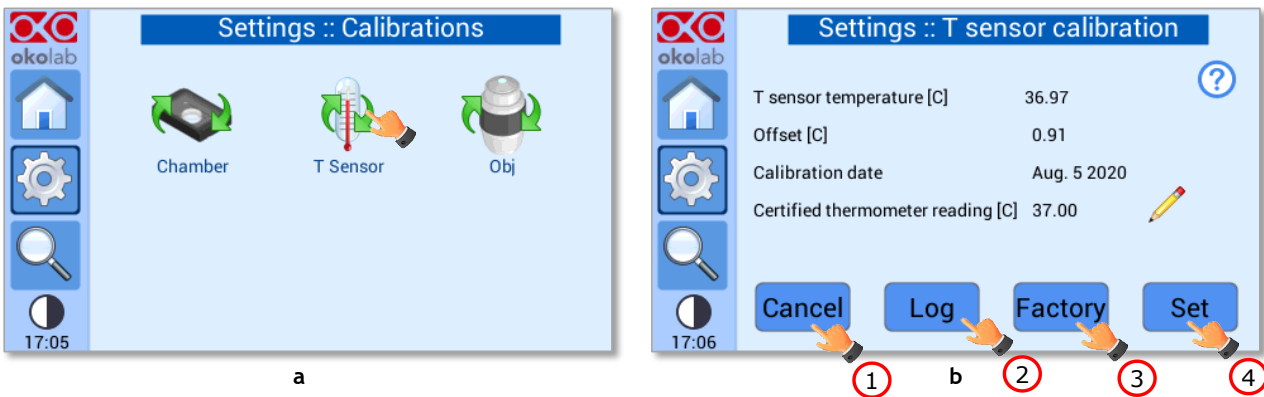
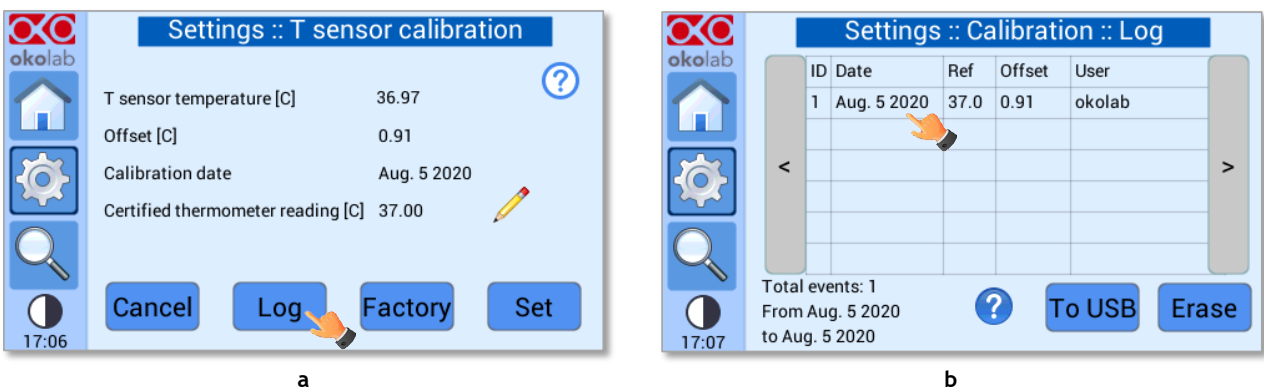
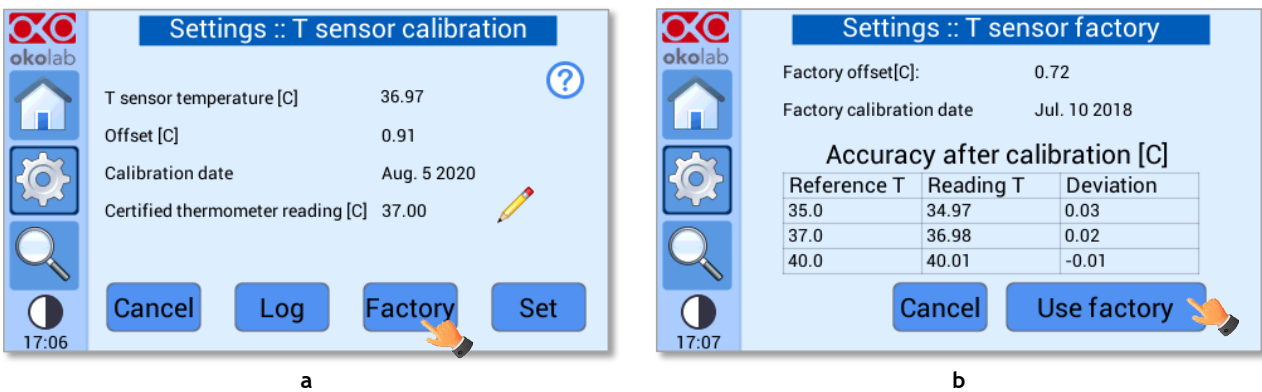

Figure 58. Settings-Calibrations-T Sensor (a – b).
Figure 59. Settings – Calibrations – T Sensor – Log (a – b).
Figure 60. Settings – Calibrations – T Sensor – Factory (a – b).
Press on *T Sensor* icon , to enter the T Sensor calibration submenu (see Figure 58).
1. Press *Cancel* button (see pointer 1 in Figure 58 b) to exit the page.
2. By pressing *Log* button (see pointer 2 in Figure 58 b) you can select parameters obtained by calibrations previously performed (see Figure 59 b).
- Press *Factory* button (see pointer 3 in Figure 58 b) to view the factory calibration parameters. Press *Use factory* to recover and use the factory calibration parameters (see Figure 60 b).
- By pressing *Set* (see pointer 4 in Figure 58 b) UNO-CONTROLLER adjusts the reading of the T Sensor against the reading of the certified thermometer.
- Press on *Set* (see pointer 4 in Figure 58 b) to adjust to reading of the T Sensor against the reading of the certified thermometer.